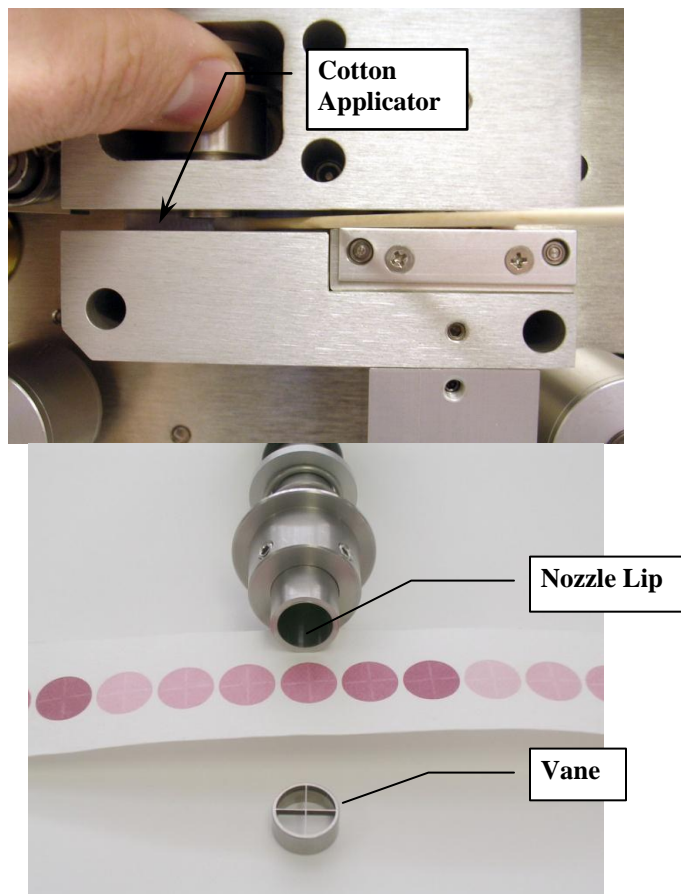

Figure 3 Nozzle Cleaning
each time the filter tape is changed. Some sites may require more frequent cleaning as determined by visual inspection of the filter spots that have previously collected sample (See Figures 3 and 4). Use the following steps to clean the parts. **Remember to “Down” the channel before any maintenance activities are performed.**
7. Use your fingers to rotate the nozzle while keeping the swab in place. A few rotations should clean the nozzle lip. (See Figure 3);